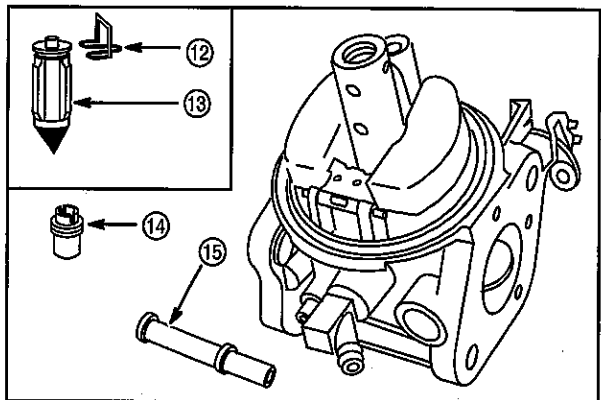

Fig. 36
14. Assemble inlet needle retainer (12) to inlet needle (13). Assemble to float, **Fig. 36**.
16. Install emulsion tube (15) and fixed main jet (14).